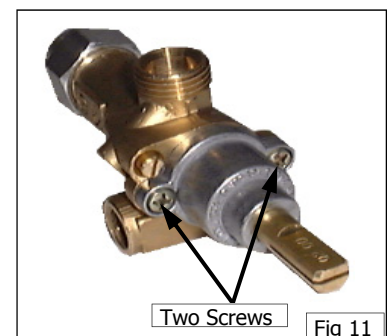

Fig 11
- e. Remove the 2 screws holding shaft plate to gas control body and remove control shaft and plate. (Refer to Fig 11). Note orientation of shaft for correct re-assembly.